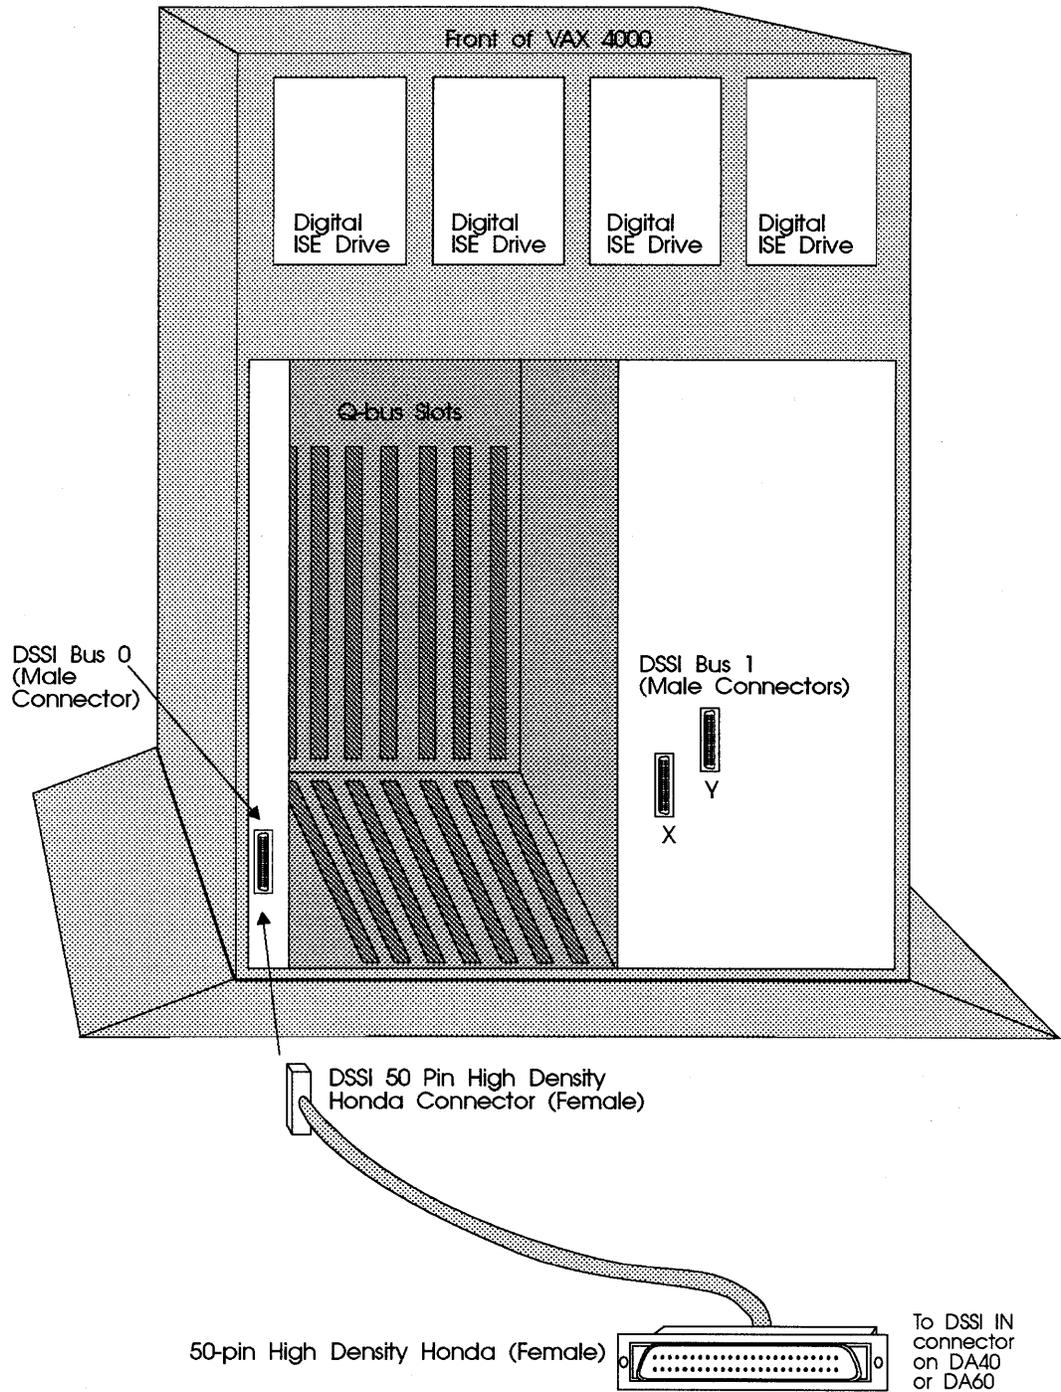

Figure 6-6: Host Computer DSSI connection
- 20 Connect the other end of the external DSSI cable to the VAX DSSI port; see Figure 6-6.